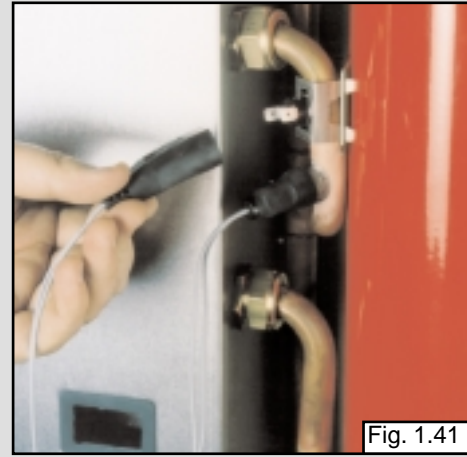

Fig. 1.41
1. Remove the electrical connector from the overheat thermostat (see fig. 1.41);